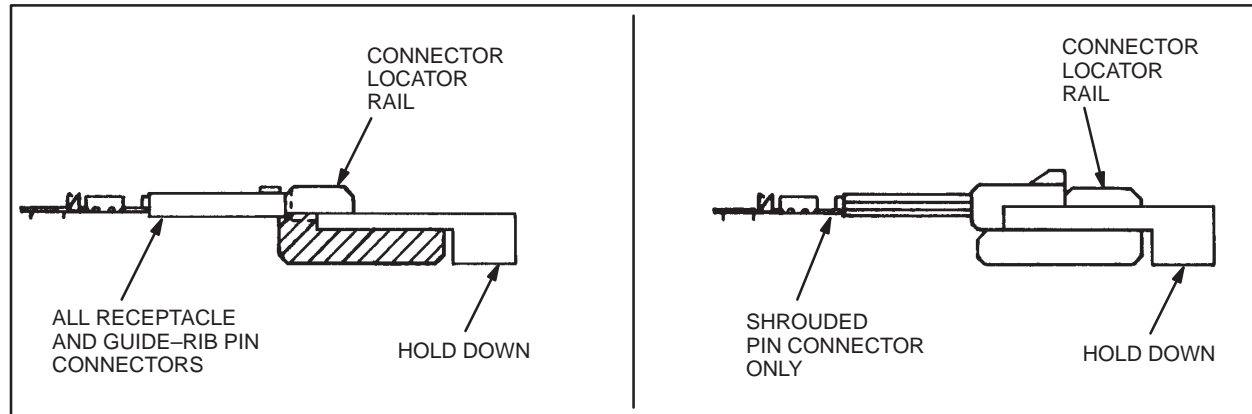

Fig. 4-1. Connector Locator Rail Placement
1. Determine type of connector. Position connector locator rail according to connector type. Remove hold-down at each end of the connector locator rail. Install locator rail as shown in Figure 4-1, and re-install the hold-downs.